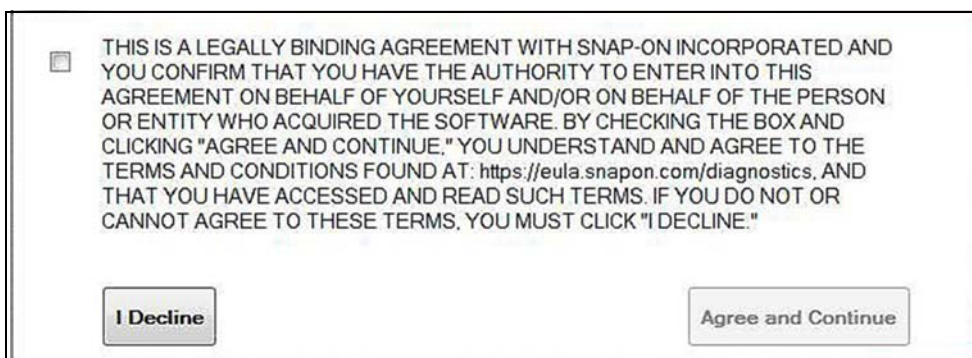
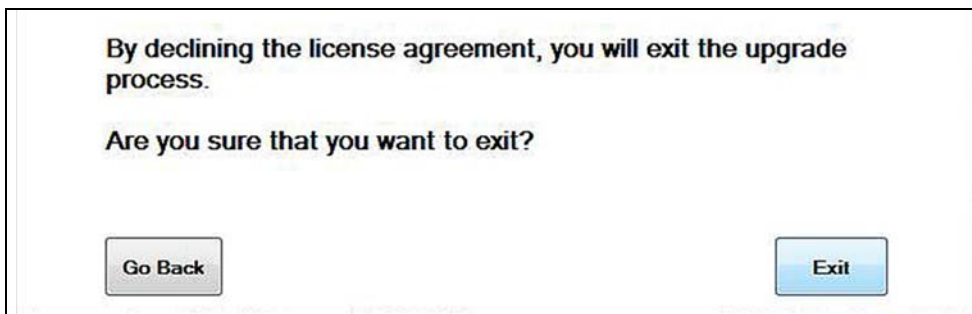

Figure 9-6 Typical EULA acceptance screen
Figure 9-7 Typical EULA acceptance screen
**To Accept:** at the screen prompt (Figure 9-6) click the checkbox on the left side of the window, and then select **Agree and Continue**. The software will be installed automatically.
Figure 9-6 below represents a typical EULA acceptance agreement screen.
**To Decline:** at the screen prompt (Figure 9-6) select **I Decline**. A confirmation message is displayed providing options to Go Back or Exit the software installation (Figure 9-7).